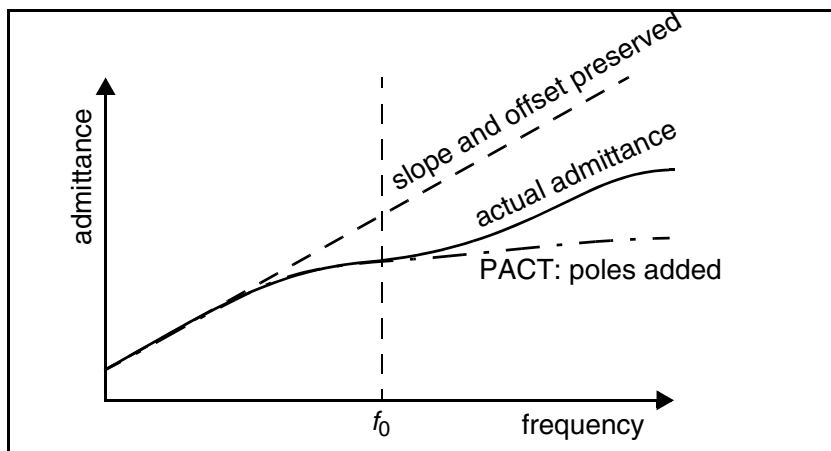

Figure 113 PACT Algorithm
- The transform preserves the first two moments of admittance at DC (slope and offset), so that DC behavior is correct (see Figure 113).